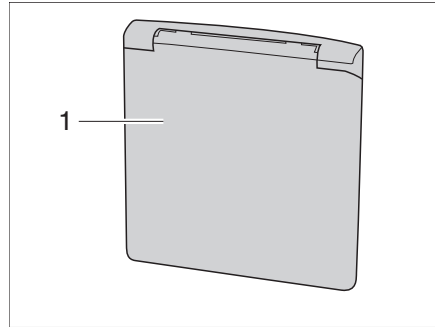

Fig. 1 Flap for 230 V connection
- Opening:** ■ Grip the external flap (Fig. 1,1) at the bottom and lift it upwards.